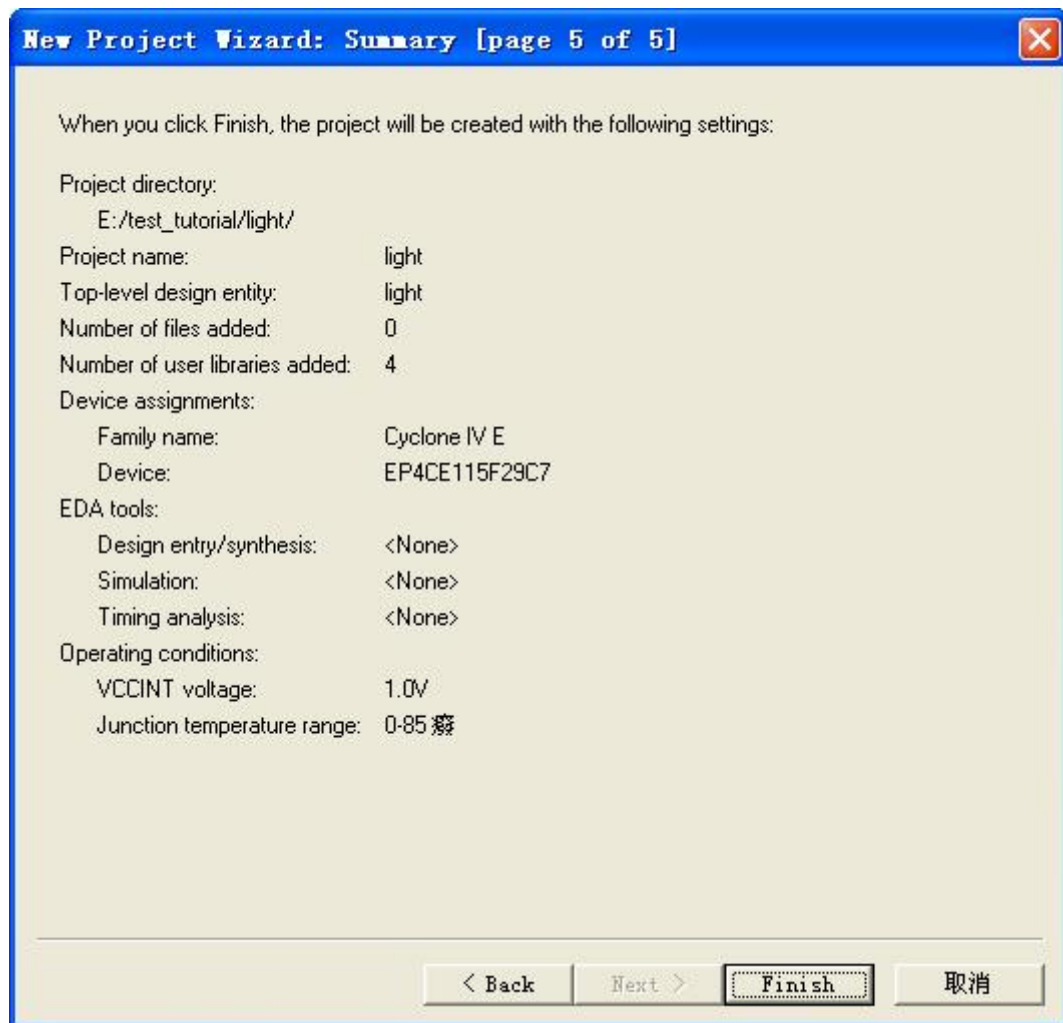
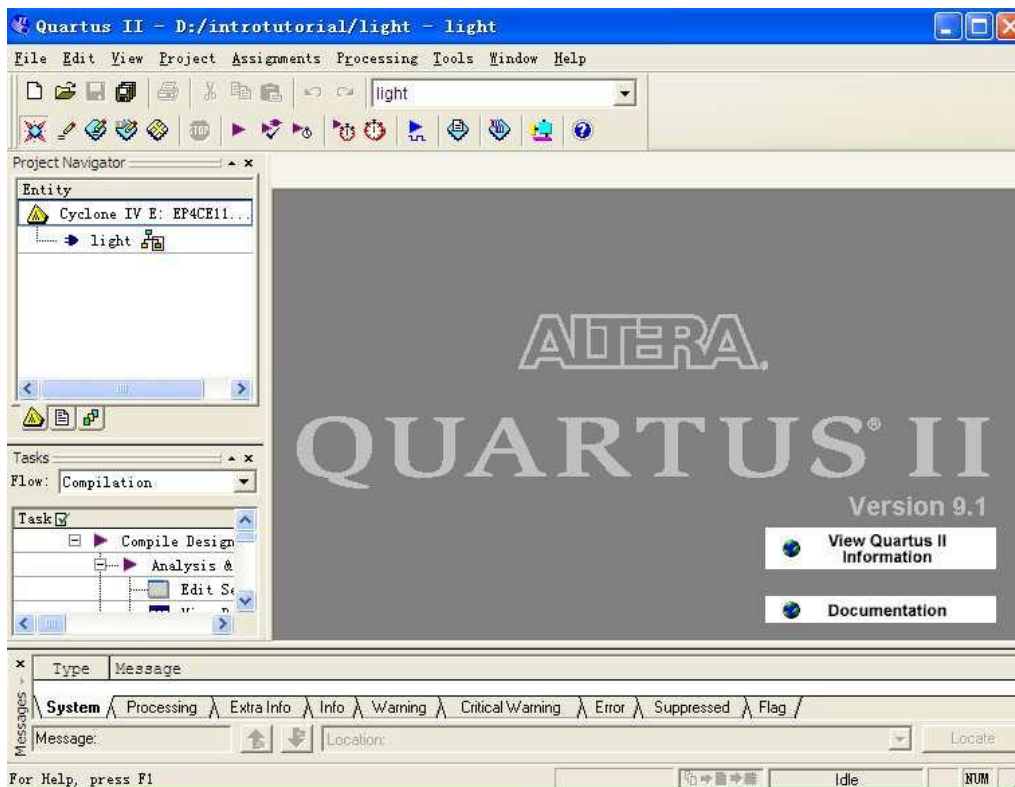

Figure 10. Summary of the project settings.
Figure 11. The Quartus II display for the created project.
6. A summary of the chosen settings appears in the screen shown in Figure 10. Press **Finish**, which returns to the main Quartus II window, but with light specified as the new project, in the display title bar, as indicated in Figure 11.